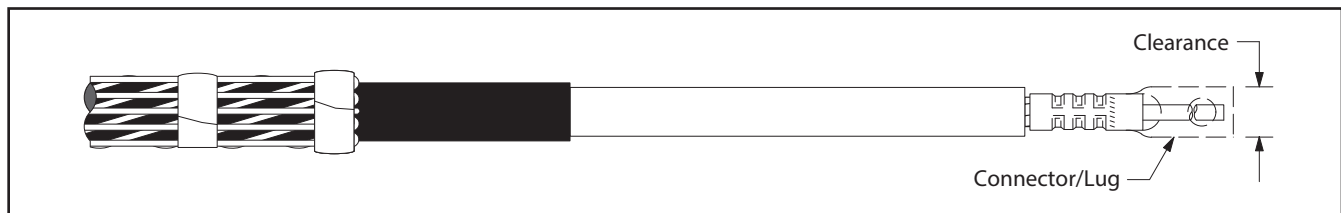

Figure 9
- 7.1 Check to insure 3M Cold Shrink QT-III Silicone Rubber Termination assembly fits over the selected lug or connector BEFORE installing the lug or connector. If lug or connector (Figure 9) will not fit through the termination core, clean the insulation (per Step 8.0) and slide termination on cable before installing Lug or Connector. **DO NOT REMOVE CORE AT THIS TIME.**